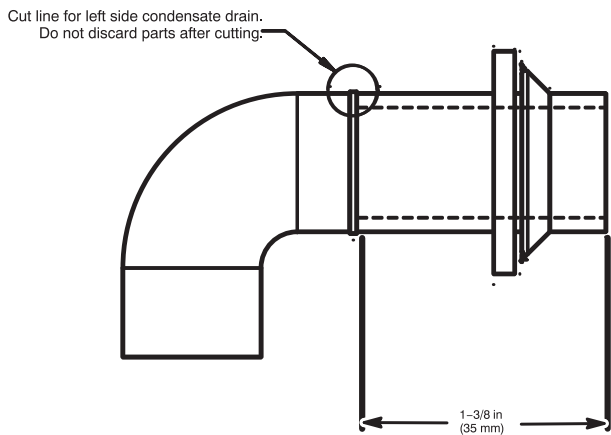

Fig. 16 – Modify Rubber Drain Elbow
- The Z-pipe is connected to the condensate trap and the outside of the furnace by modifying the formed rubber drain elbow as shown in Fig. 16.
- Remove the formed grommet from the rubber drain elbow by cutting the elbow along the vertical line located about 1-3/8 in. (35 mm) away from the formed grommet. See Fig. 16. **DO NOT DISCARD THE FORMED GROMMET OR THE RUBBER ELBOW.** Both of these pieces will be used.
TIP FROM CONTRACTORS: When installing the furnace horizontally, use the entire drain elbow (that is, do NOT cut as shown in Fig. 16 to connect the trap to the drain line. This helps to prevent bumps and shocks to the drain line from damaging the furnace drain trap. Avoid misalignment of the drain pipe which may cause kinks in the elbow.